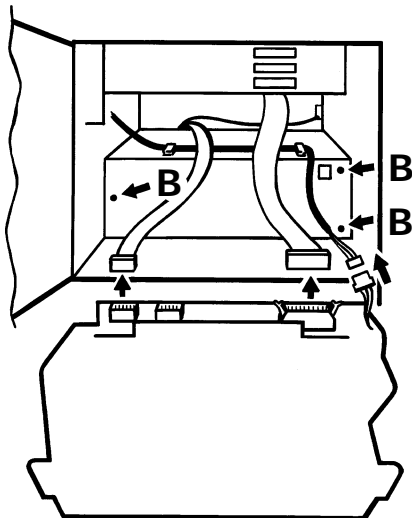
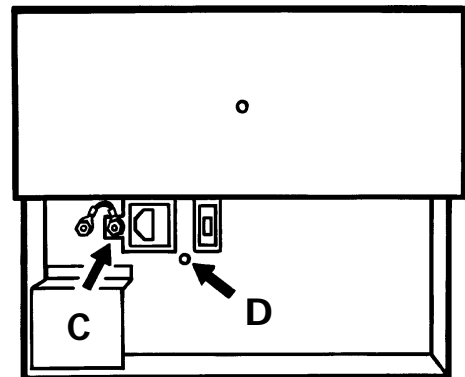

Figure 2.2.2b Writing system removal
Figure 2.2.2c
5. Lift the writing system out of the case, releasing the various connectors as they become accessible (figure 2.2.2b).
6. Release the Power supply unit from the front, using screws 'B' in figure 2.2.2b, then from the back, by removing the safety earth (nut 'C' in figure 2.2.2c) and securing screw 'D'.